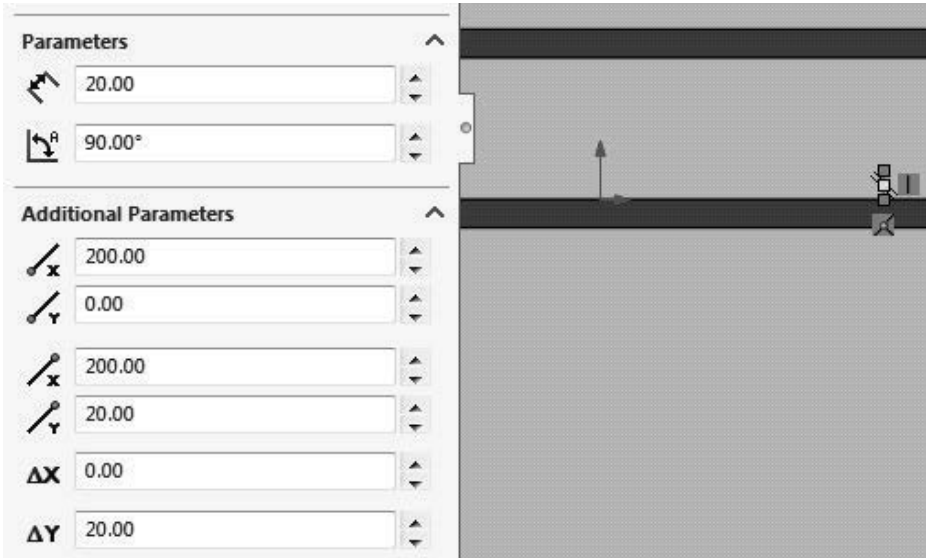

Figure 2.7 Parameters for vertical line
- Draw a vertical line in the Y-direction in the front plane starting at the lower inner surface of the sketch. Set the **Parameters** and **Additional Parameters** to the values shown in figure 2.7. Close the **Line Properties** dialog and the **Inert Line** dialog.